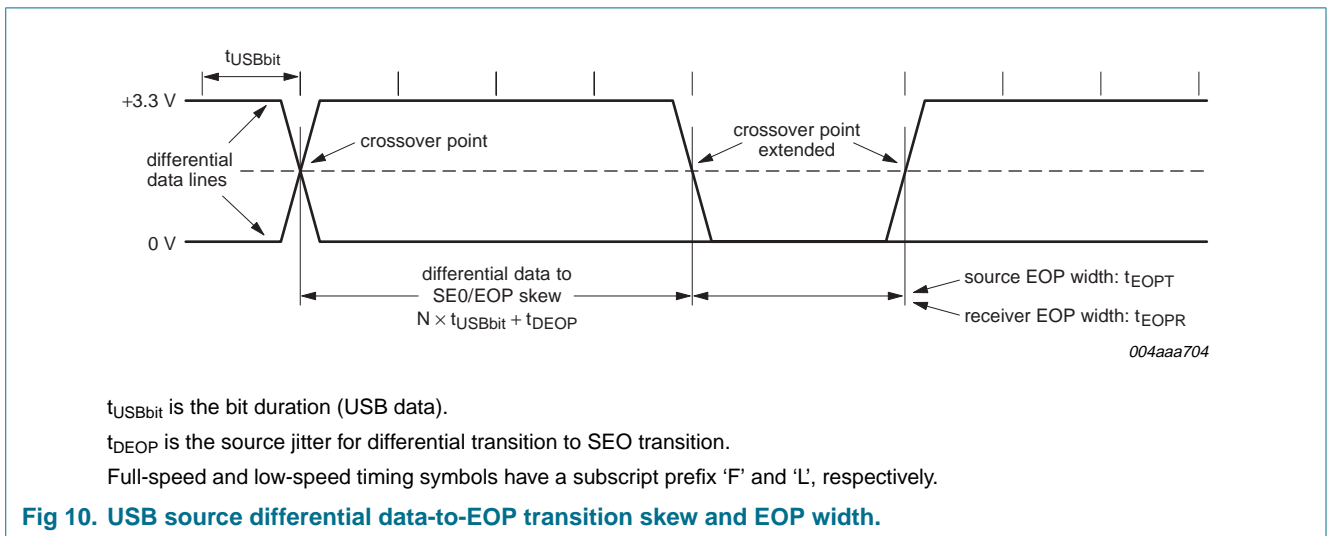

Fig 10. USB source differential data-to-EOP transition skew and EOP width.
**Data timing: see Figure 10**